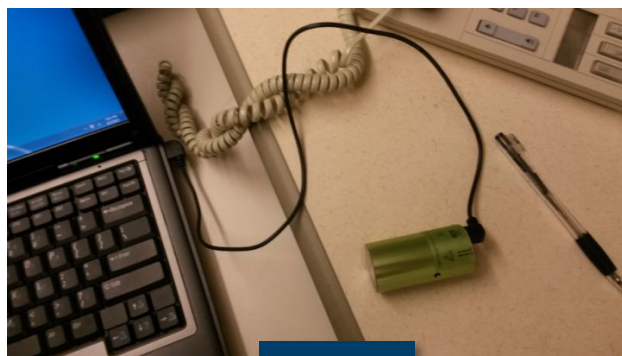
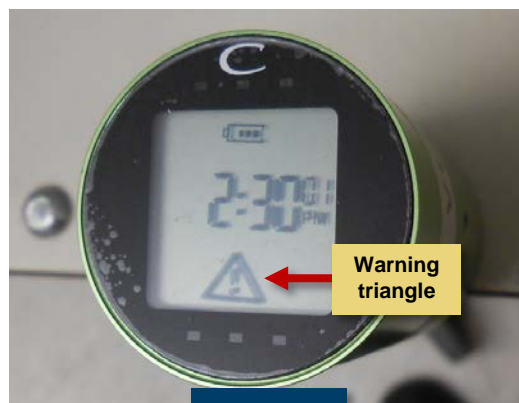

Figure 2
Figure 3
The sensor can be charged by connecting it directly to a power source or by connecting it to a USB port of a computer, which is connected to a power source (Figure 2). It takes approximately 4 hours to charge the device. When fully-charged, the CairClip can operate for more than 24 hours. It is strongly recommended that the sensor battery be recharged frequently, preferably after each 24 hours of operation. This is important, especially if the battery is nearly depleted, which causes the unit to switch to standby mode (indicated by the warning triangle shown in Figure 3).
1. Connect the CairClip NM-VOC to the computer using the USB cable as shown above in Figure 2.